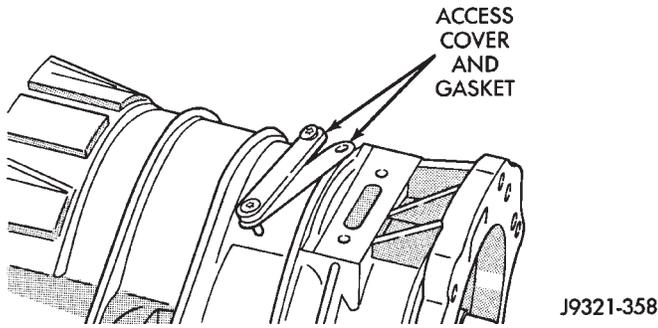

Fig. 218 Access Cover And Gasket Removal/ Installation
(4) Remove access cover and gasket (Fig. 218).